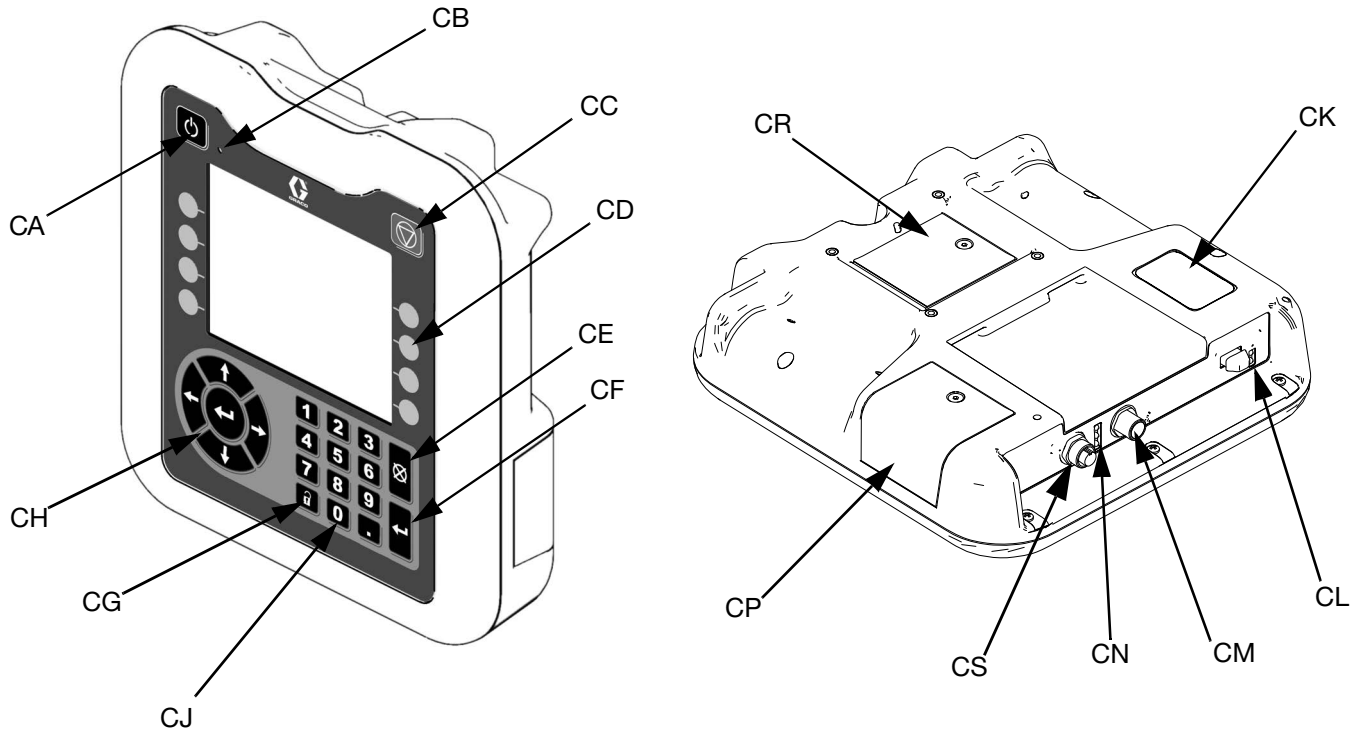

Fig. 6: ADM Component Identification
- AG Integrated Air Controls (see Figure 6)